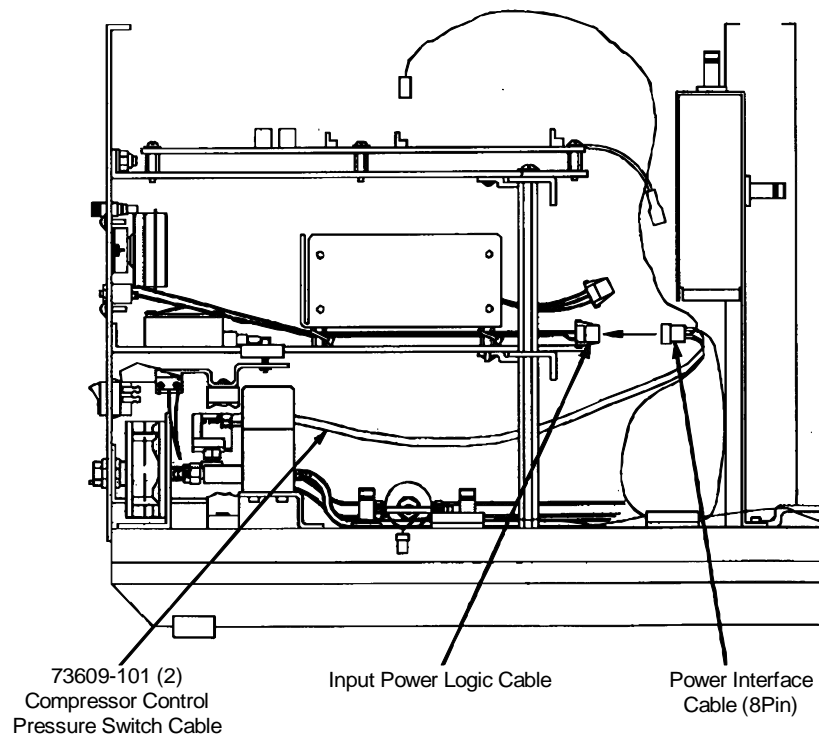
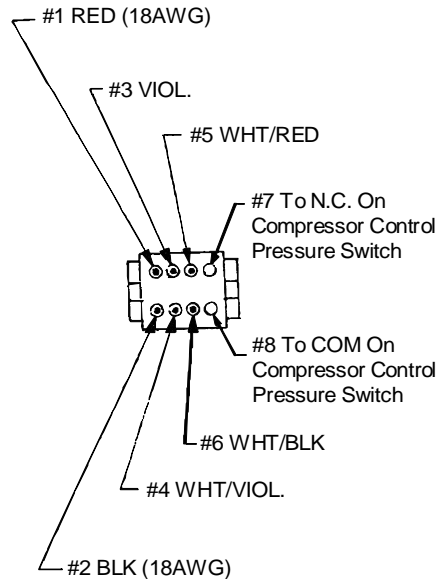

Figure 4: PPC Rearview
Figure 4A: Power Interface Cable Connector
- d) Using **figure 4**, locate the Power Interface Cable (8 pin connector) that connects to the Input Power Logic Cable on the Power Entry assembly. Using **Figure 4A** as a key, locate pin positions 7 and 8. (*Both of these pin locations should be empty*). Insert the other end of the cable, from the N.C. connector, on the compressor control pressure switch, into the PIN 7 location of the Power Interface cable connector. Insert the other end of the cable from the COM connector of the switch, into the PIN 8 location.